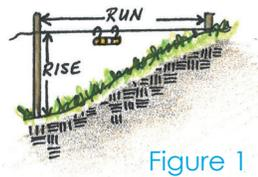

Figure 1
STEP 1. Measure the slope. Measure the overall rise and run of the area in inches (Figure 1).